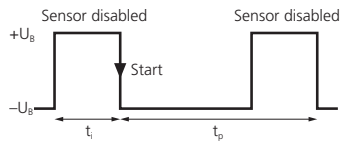

Fig. 3: External synchronisation signal
- ➔ Apply a square-wave signal to the sync-input with pulse width t_i and repetition rate t_p (Fig. 3 and technical data).